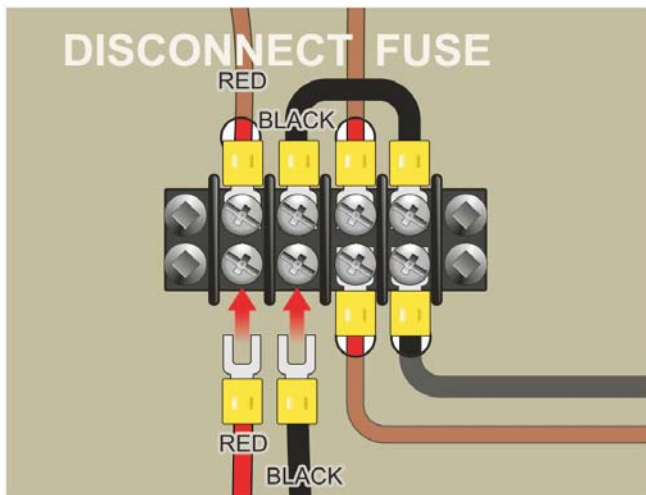

Figure 6-16: Preparing the PV Array's Battery Cables
4. Crimp a fork lug connector to the red and black wires and secure them to the two, left most connection points on the bottom row of the PV Control Panel connection block, as illustrated in Figure 6-16. The color of each wire should match the wiring on the opposite side of the terminal block (red on the far left and black on the inside left). Do not connect the wires to the battery wires at this point. Be sure to crimp the connections using the appropriate sized connectors.